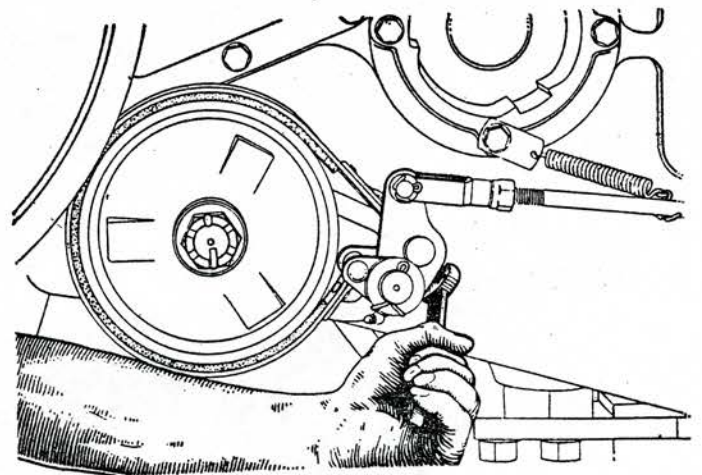

Fig. 48 Adjusting service brake. Model D
**SERVICE BRAKE**—To adjust the service brake, tighten the nut on the end of the brake band, Fig. 48, as much as possible without causing a drag on the brake drum.